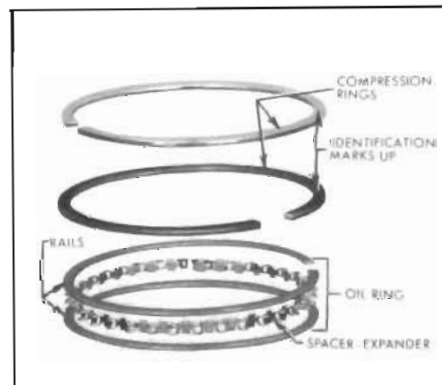

Figure 2-88—Piston Rings
8. Install piston rings as shown in Figure 2-88. Position expander ends over piston pin where groove is not slotted, and be absolutely certain that the ends do not overlap. Install oil ring rails with gaps "up" on same side of piston as oil spurt hole in connecting rod. Install compression rings in upper two grooves. If a single chrome plated compression ring is used, the chrome ring must be installed in the top groove.